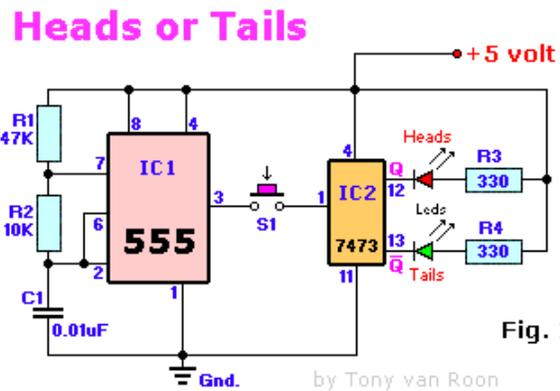

Fig. 13
**Fig. 13, Coin Toss:** Electronic 'Heads-or-tails' coin toss circuit. Basically a **Yes** or **No** decision maker when you can't make up your mind yourself. The 555 is wired as a Astable Oscillator, driving in turn, via pin 3, the **7473** flip-flop. When you press S1 it randomly selects the 'Heads' or 'Tails' led. The leds flash rate is about 2Khz (kilo-Hertz), which is much faster than your eyes can follow, so initially it appears that both leds are 'ON'. As soon as the switch is released only one led will be lit.